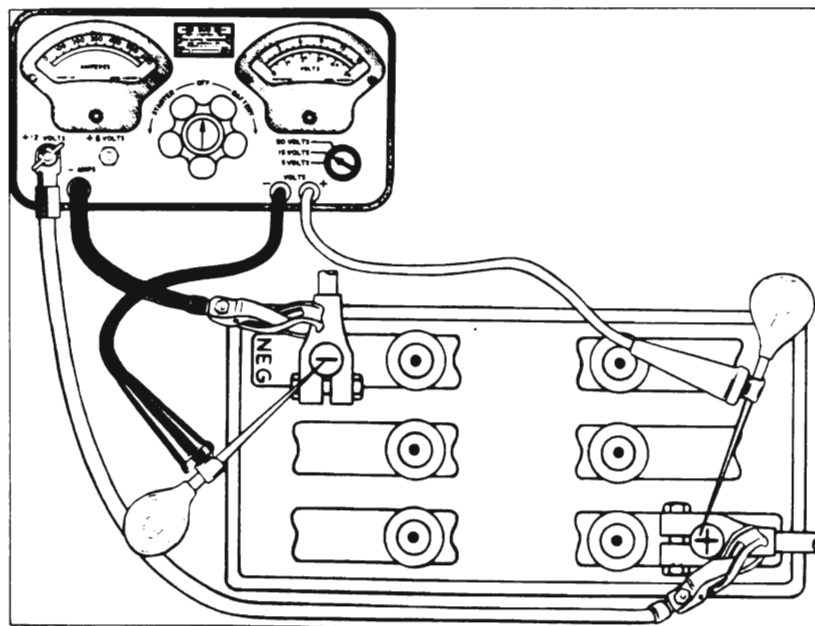

Figure 10-3—High Discharge Test Connections
2. Connect ammeter positive (+) lead to battery positive (+) post, and negative (-) lead to one side of rheostat. Connect other side of rheostat to battery negative (-) post. In the instrument shown in figure 10-3 the ammeter and rheostat are connected in series inside the case. If battery is installed, connect ammeter and rheostat leads to battery cable terminals so that battery posts are not covered.